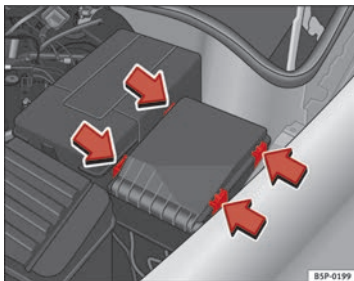

Fig. 176 Fuse box cover in engine compartment
- Prise off the fuse cover in the engine compartment by pressing the tabs towards the centre of the cover ⇒ Fig. 176.